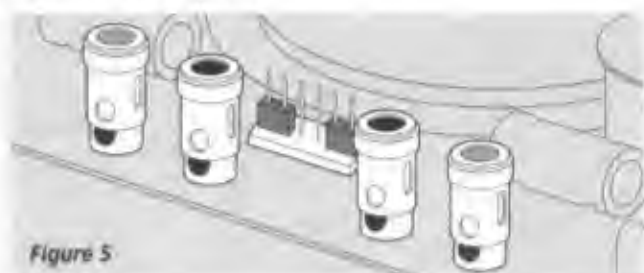

Figure 5
**4** Attach the previously installed audio feed wires to the appropriate speaker terminals. For Mono or Trivector operation either set of input terminals may be used. For Stereo operation one set of leads is attached to each set of input terminals. Simply remove 1/2 inch of insulation from the end of each input wire. Push down on the terminal connector and a large opening will appear in the shaft of the connector that is capable of holding up to 10 gauge wire. Insert the bare wire into the opening and release the terminal. Be sure to observe correct polarity, connecting the positive (+) leads in the red terminals and the negative (-) leads to the black terminals. Also be sure that no stray strands of wire touch across any terminals. See Figure 5.